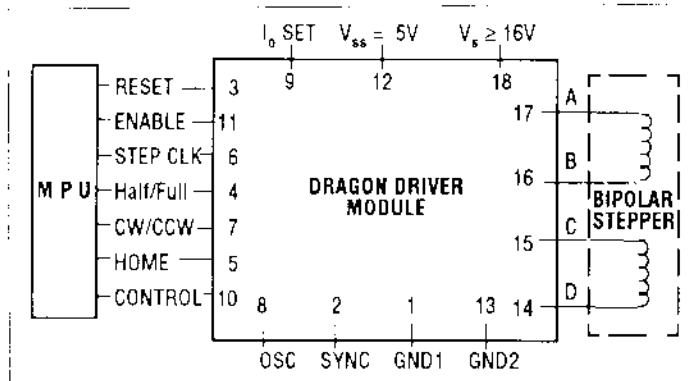

Fig. 9. Typical Application - Module Models 29A65 & 29A70.
*Pin numbers refer to 'Stand-alone' Dragon Driver modules 29A65 & 29A70 shown in Figures 9 & 10, page 6.